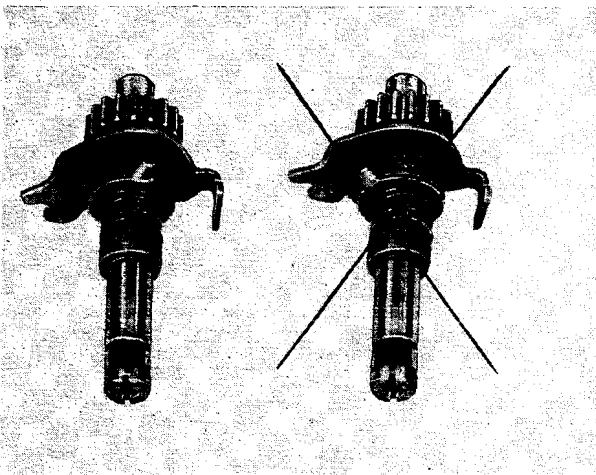

Fig. 80. Correct mounting of the dog (left)
Fit the dog (3) in the manner shown on the left of Fig. 80. The right part of Fig. 80 shows a kick-starter shaft mounted in the wrong manner.